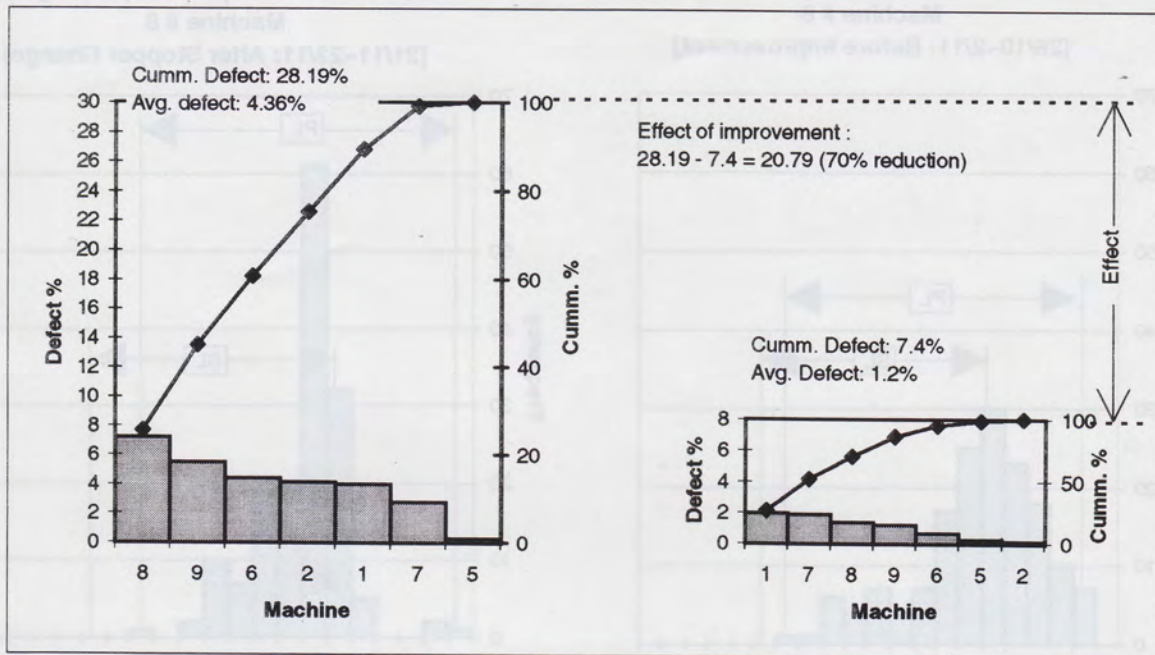

Figure 4 : Pareto Charts for Situation Before and After Improvement
- e) After implementation of improvement measures on stoppers, daily data was collected of two weeks (23rd December to 3rd January, 1997) to gauge the result. Defects dropped down to 1.2%. [Refer to Figure 4 : Pareto Charts for Situation Before and After Improvement] The effect of improvement is quite obvious as seen in the comparative illustration of the pareto charts. The group then set a target of further lowering the defects to 1%.